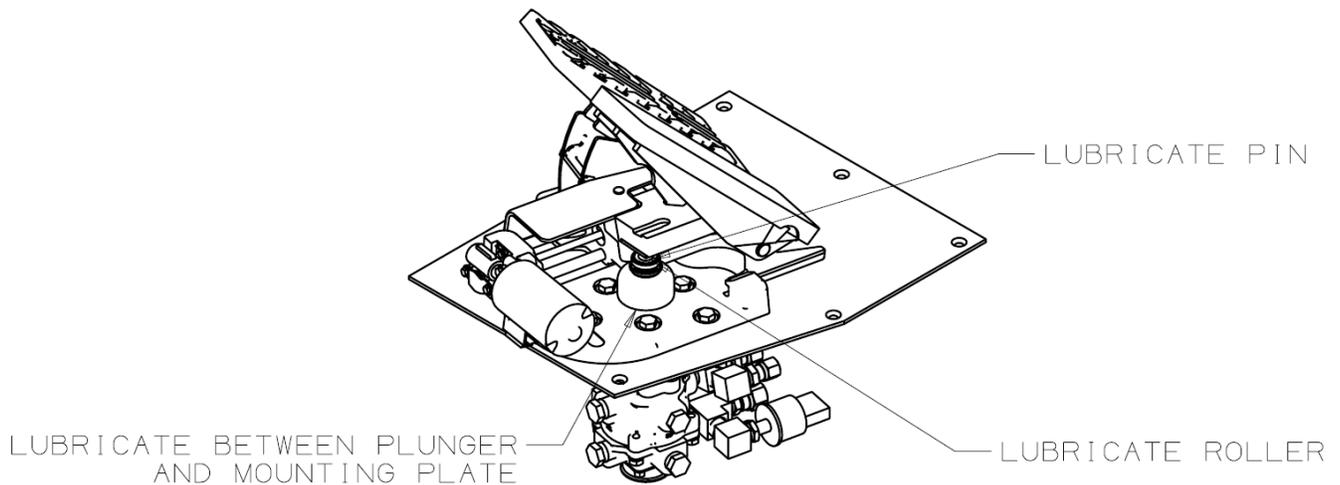

Figure 14: Apply Grease
32. Apply a thin layer of Barium grease per BW-204-M (PN: 117267) to the roller and the roller pin, see Figure 14.